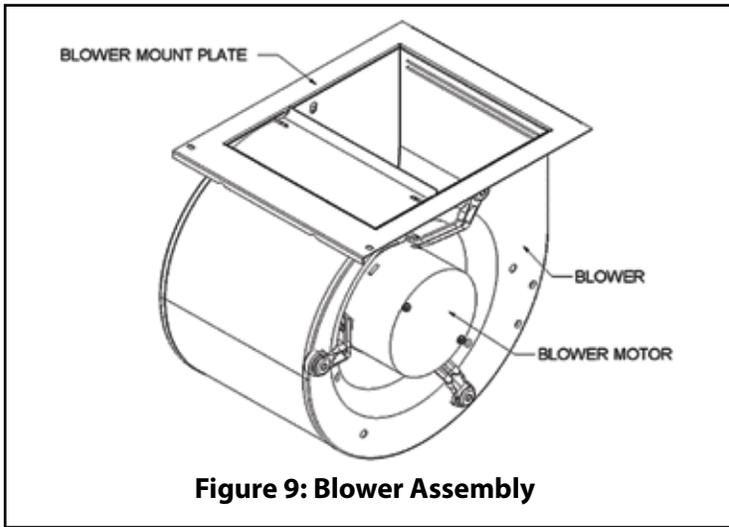

Figure 9: Blower Assembly
19. Slide the blower mount plate (See Figure 9) into the track under the blower deck until it stops and install the 2 screws that attach the blower assembly to the blower deck that were removed in Step 6.